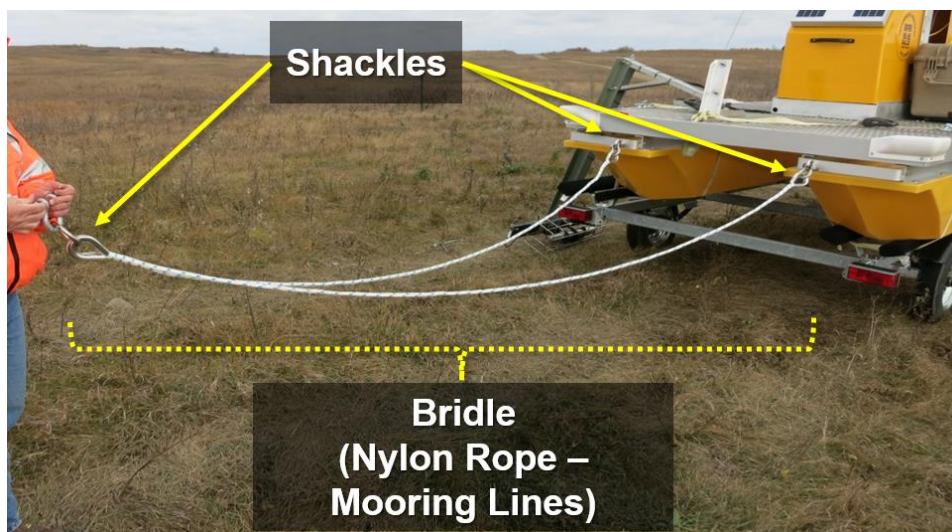

Figure 12. Bridle Attachment Points Example (What to Expect in the Water)
- d. Inspect the bridle nylon rope for UV damage and the shackles and cotter pin for rust/corrosion (see Figure 12).